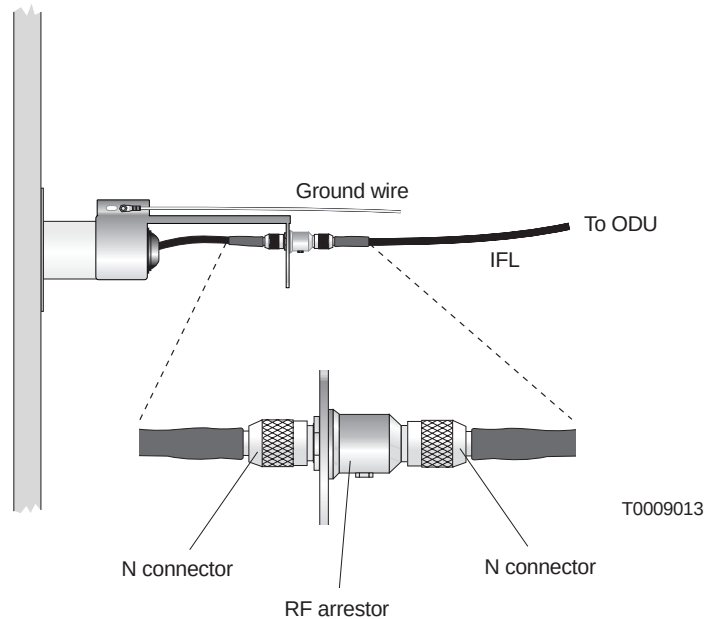

Figure 4-11 Connecting the IFL to the RF arrestor
5. Connect the IFL cable to the RF arrestor, as shown in figure 4-11.